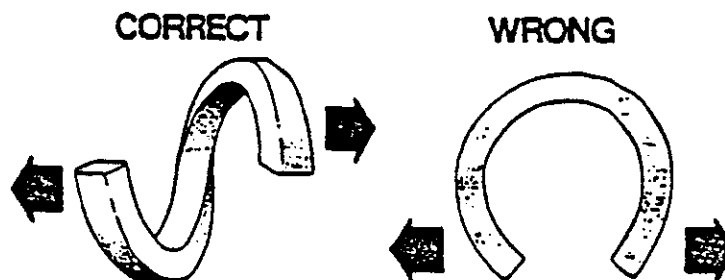

FIG. 6
d. When installing packing rings, twist the rings sideways instead of straight out when putting them on the shaft (FIG. 6). Bending them